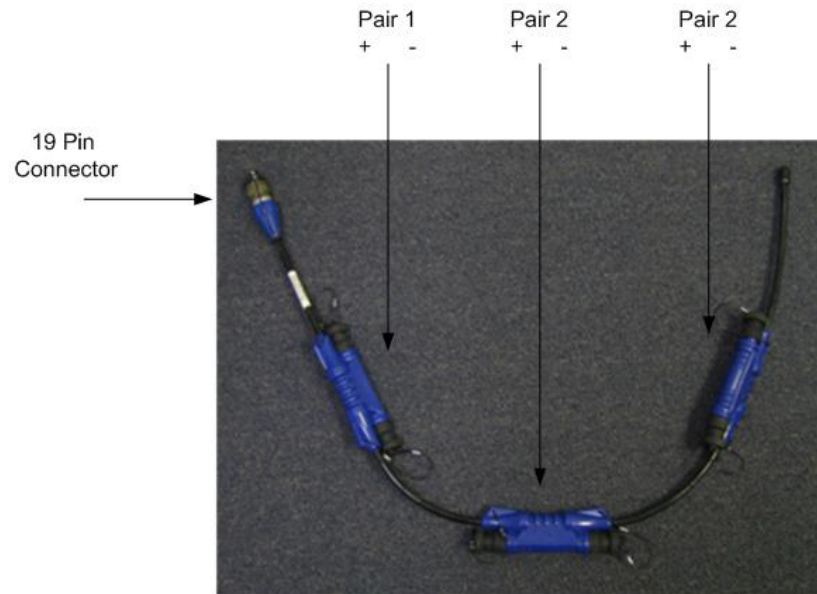

Figure 9 - KMS-110 ELECTRODE TRANSITION CABLE
Electrodes are connected to the system via the KMS-110 ELECTRODE TRANSITION CABLE, Figure 9.
The LEMI-701 are super-low noise non-polarized electrodes which are manufactured as matched pairs. Each pair of electrodes are connected to the KMS-110 with the KMS-115 50m ELECTRODE EXTENSION CABLE (Figure 10). This allows the electrodes to be placed up to 100 m apart. The KMS-110 connects to the unit with the same connector as the KMS-100 INDUCTION COIL TRANSITION CABLE. This allows up to three (3) pairs of electrodes to be connected to each ANALOG INPUT CONNECTOR at a time. The pairs are numbered from the 19 pin connector as shown in Figure 9. The electrode to KMS-820 channel number is shown in Table 4.